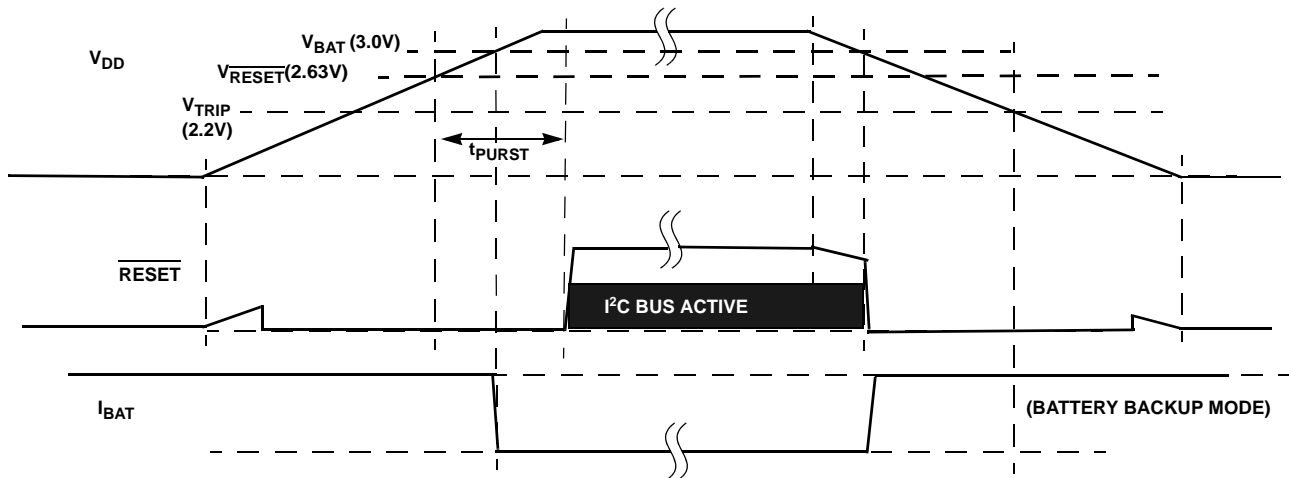

FIGURE 30. RESET OPERATION IN MODE D
- Mode D - In this mode, the selection bits indicate switchover to battery backup at  $V_{\text{DD}} < V_{\text{BAT}}$ , and no I2C communications in battery backup. This mode is unique in that there is I2C communication as long as  $V_{\text{DD}}$  is higher than  $V_{\text{RESET}}$  or  $V_{\text{BAT}}$ , whichever is greater. This mode is the safest for guaranteeing I2C communications only when there is a Valid  $V_{\text{DD}}$  (see Figure 30).